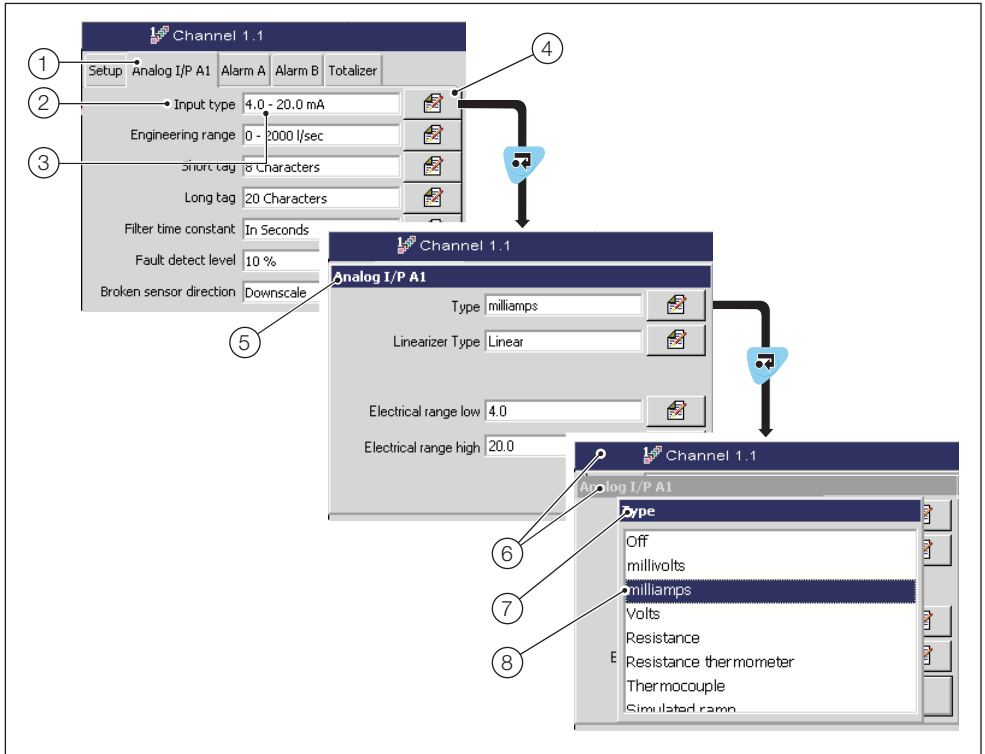

Fig. 6.5 Locating Parameter Settings
2. Make changes to parameters as detailed in Figs 6.5 and 6.6 (on pages 29 and 30 respectively) and on-line help.
3. Make changes to parameters as detailed in Figs 6.5 and 6.6 (on pages 29 and 30 respectively) and on-line help.
- ② Select the parameter required using the ▲ and ▼ keys.
- ③ Press the  key to edit selected parameter.
- ④ Use the ◀ and ▶ keys to select the next required tab.
- ⑤ Press the  key to display the menu. Select the next item required and activate using the  key.
- ⑥ When all configuration changes are complete select 'Exit' to save or cancel changes.
6.5 Making Changes to Parameters – Figs. 6.5 to 6.7
Referring to Fig. 6.5, parameters are located as follows: